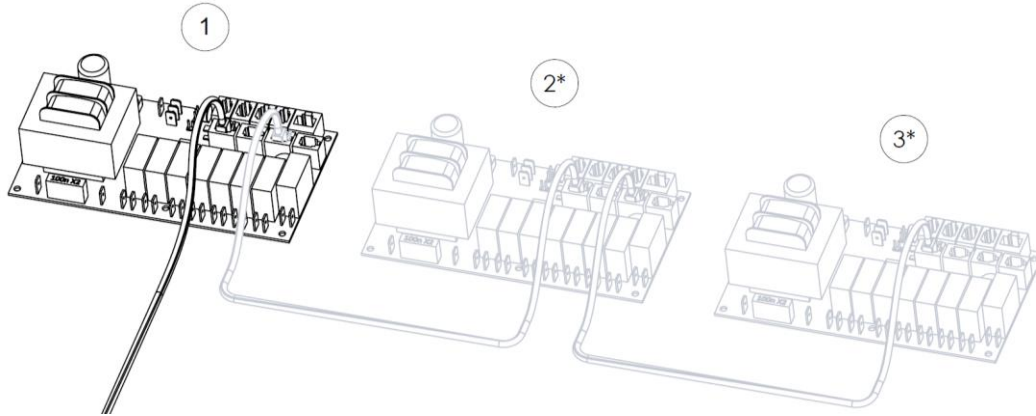

Fig. 18
The connections between the generators use a low power cable (4 core) with an RJ10 connector, (Fig. 18.) Refer to the section "Modular connector description" (Fig. 18) for more information on the pin configuration.
If one steam generator needs servicing the others can remain in operation. One generator that is set as a secondary is disconnected by removing the cable from between the circuit boards. (Fig. 18)
2. Disconnect the cable that connects the control circuit boards (Fig. 18)